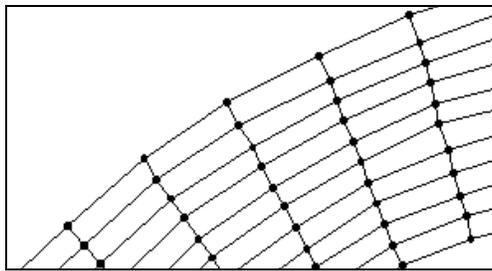

Figure 5 The mesh section after merging triangles
- Repeat the above split/merge process until there are no more triangles across the section. This part of the mesh should look like Figure 5.